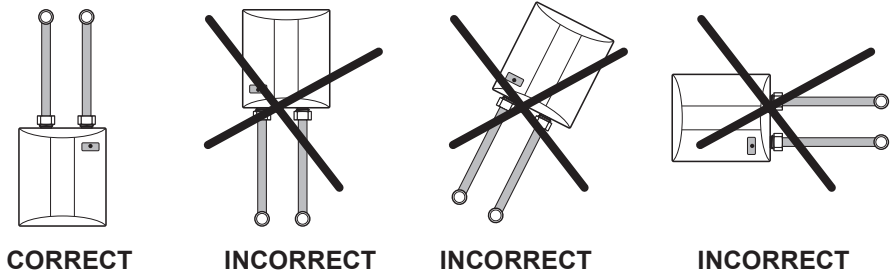

fig.1
- the heater can operate only in the position shown in figure 1.
The heater can only operate in the position shown in figure 1. Installing the device in other position or installing it without the water filter may lead to the damage to the heating element and the loss of warranty. Do not screw the hoses too much so as not to damage the thread. Do not seal the stub pipes with the so-called oakum or teflon tape. Protect the electronic system from getting wet.